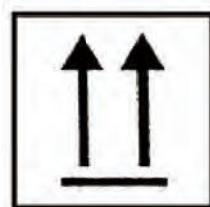

FIG 9-1
2) The shipment should be vertical upward, as shown in the figure 9-1.